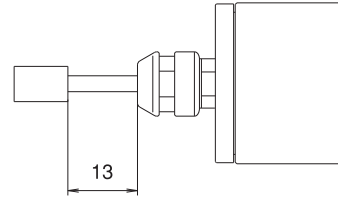

Fig.15
② Do not exceed 13mm overhang for mounted grindstones. In case overhang must exceed 13mm reduce the motor speed in accordance with Fig.15.
③ Do not use tools with bent or broken shanks, cracks or excessive runout.
④ Dress the grindstone prior to use.
- ⑤ For grinding the maximum depth of cut should not exceed 0.01mm radially or axially. Reciprocate the tool several times after each in feed step.
- ⑥ Always operate tools within the tool manufacturer's recommended speed limits. Use of a tool outside of the manufacturer's recommended speed limits could cause damage to the spindle and injury to the operator.
- ⑦ Keep the tool shank and collet clean. If contaminants are left in the collet they can cause excessive runout and damage the tool and spindle.
- ⑧ Do not strike or disassemble the spindle.